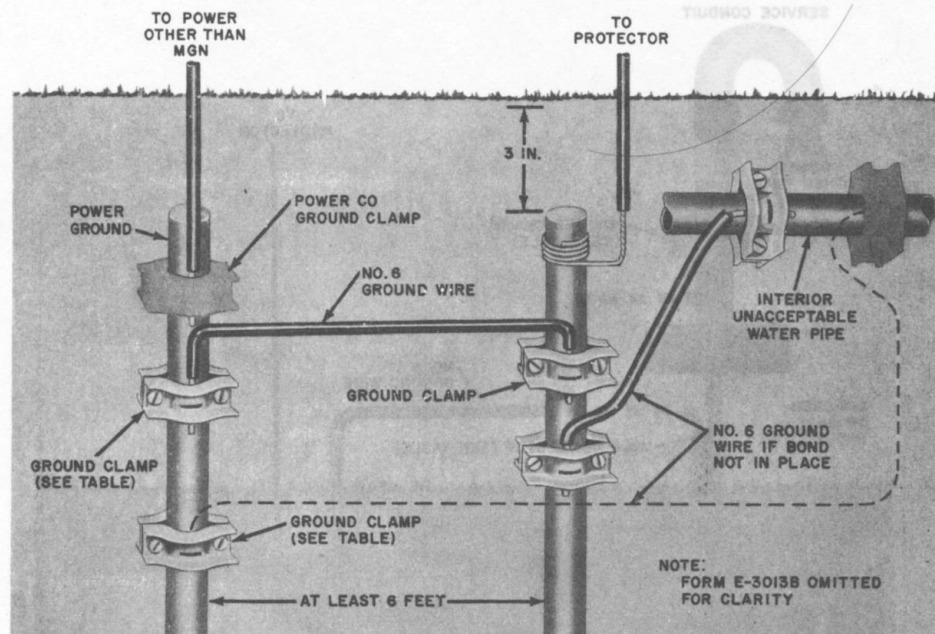

Fig. 28—Power Other Than MGN Grounded to Ground Rod—Unacceptable Interior Water System
- (b) If the power service and the telephone protector are connected to separate ground rods, bond the two rods together as shown in Fig. 28 and 29.
- (b) If a power ground rod is available, one telephone ground rod is sufficient. Bond all protectors together and bond telephone ground rod to power ground rod (Fig. 28).